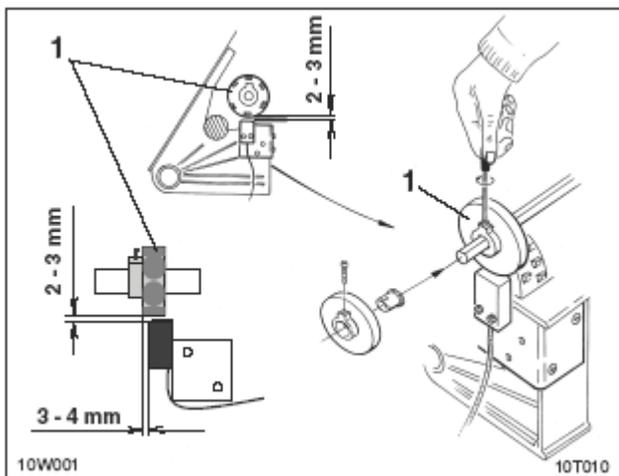

Fig. 10.4
- Attach magnet holder (Fig. 10.4/1) with 6 magnets to lay shaft.